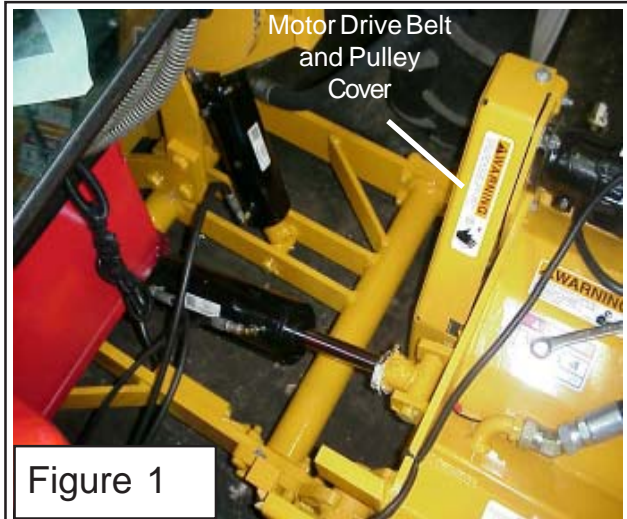
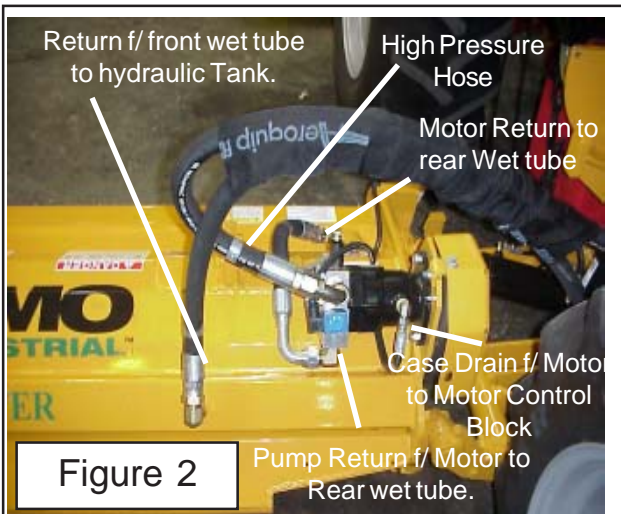

Figure 1
Figure 2
2. Remove Drive Belt Cover on Wing Mowers. Remove drivebelt cover (See Figure 1) which will allow access to the motor drive belt and pulley (See Figure 2).
3. Dis-connect Hoses from Wing Motor. The hoses on the wing will need to be dis-connected from motor. Cap (Plug) these hoses and all openings in motor immediately when you disconnect them (See Figure 2)
12. Reinstall Belt Cover. Install the belt cover back onto the end of the mower deck and reinstall the retaining bolts. Do not operate any mower with shields or guard damaged or missing. (See Figure 1 through 4)